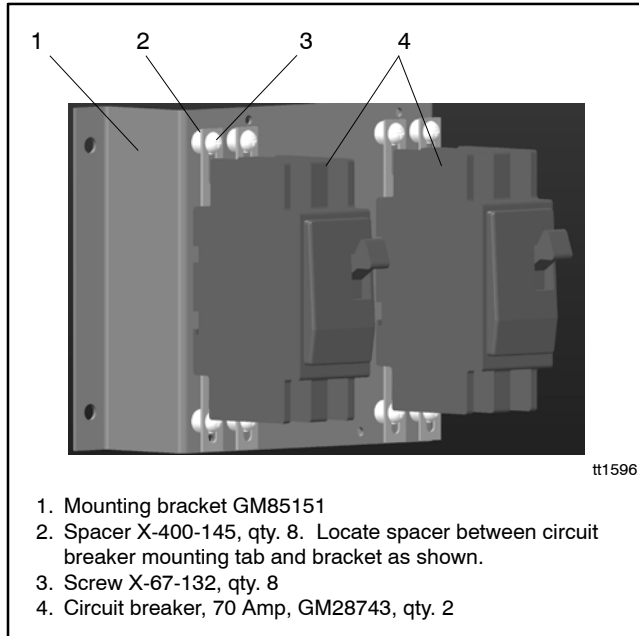

Figure 10 70 Amp Circuit Breaker Mounting, 14RESA
- a. Use 4 X-67-132 thread-forming screws and 4 X-400-145 spacers for each circuit breaker. Install the spacers between the circuit breaker mounting tabs and the bracket. See Figure 10.